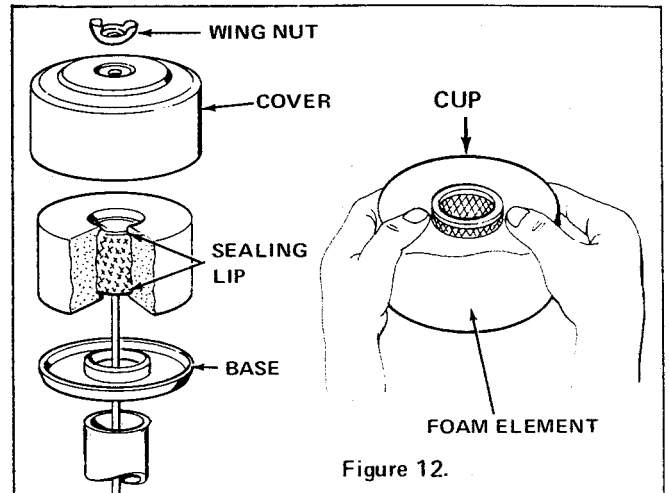

Figure 12.
2. See Figure 12. Clean air cleaner and re-oil element. The capacity of the oil-foam air cleaner is adequate for a normal full season's use without cleaning. However, under extremely dusty conditions clean every few hours. Clean air cleaner as follows;